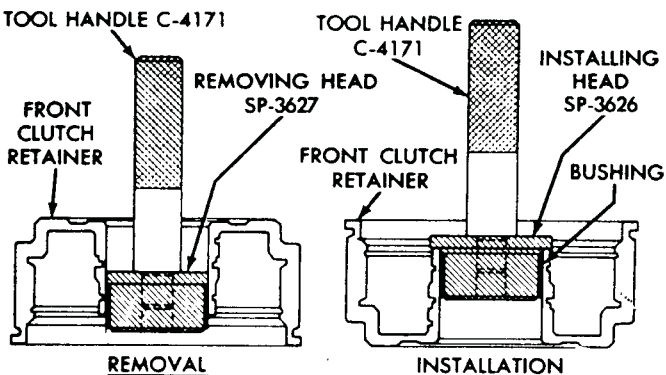

Fig. 15—Replace Front Clutch Retainer Bushing
(1) Lay clutch retainer (open end down) on a clean, smooth surface and place removing head Tool SP-3627 in the bushing (Fig. 15). Install handle Tool C-4171 in removing head.
(2) Drive bushing straight down and out of clutch retainer bore. Be careful not to cock tool in the bore.
(3) Lay clutch retainer (open end up) on a clean, smooth surface. Slide a new bushing on installing head Tool SP-3626, and start them in clutch retainer bore.
(4) Install handle in installing head. Drive bushing into clutch retainer until tool bottoms.
(5) Thoroughly clean clutch retainer before assembly and installation.